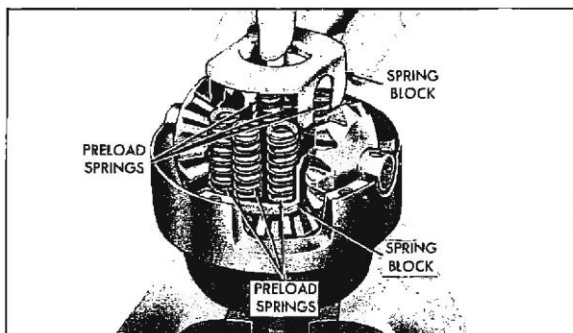

Fig. 4-52 Installing Second Thrust Block
8. Install flange side of differential assembly over cone in proper position to match alignment marks: insert two bolts finger tight 180° apart (Fig. 4-52).